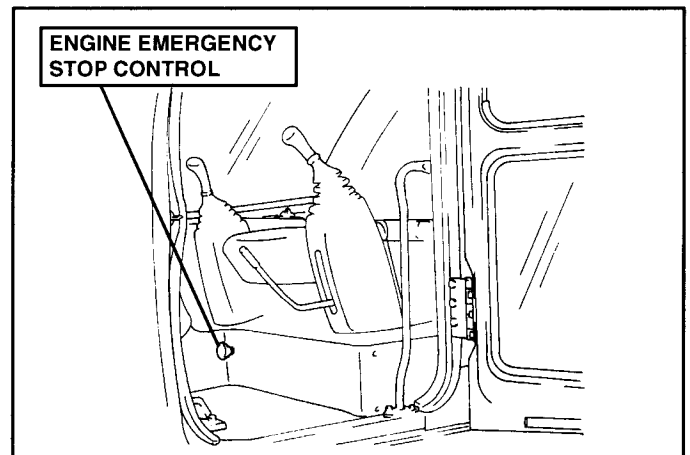

FIGURE 2.28
2. Engine Emergency Stop Control – FIGURE 2.28